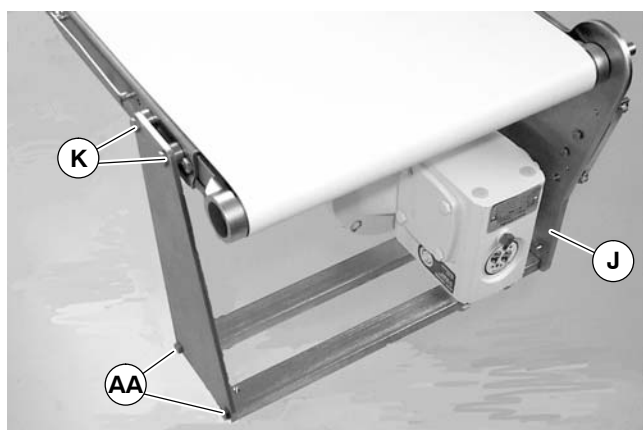
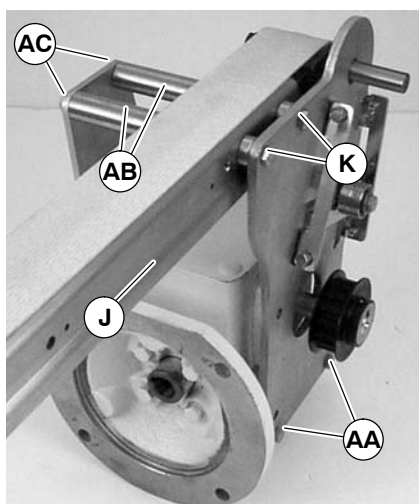

Figure 4
Figure 5
NOTE: 7200 Series 4" (102mm) and wider mounting assembly shown. 2" (51mm) and 3" (76mm) wide mounting assemblies include two spacer tubes (AB of Figure 5) and two long M6 screws (AC).
- 2a. For 4" (102mm) and wider conveyors, loosen two screws (AA of Figure 4). Attach bottom mount assembly (J) to conveyor with four screws (K). Tighten screws (K) and (AA) to 92 in-lb (10.4 Nm).
- 2b. For 2" (51mm) and 3" (76mm) conveyors, loosen two screws (AA of Figure 4). Attach bottom mount assembly (J of Figure 5) to conveyor with two spacer tubes (AB) and screws (AC), and two screws (K). Tighten all screws to 92 in-lb (10.4 Nm).
3. Loosen four screws (AA of Figures 4 and 6). Attach bottom mount assembly (J) to conveyor with two 1.758" (44.7mm) long spacer tubes (AD) and M6 x 65mm hex head cap screws (AE), and two spacer tubes (AF) and screws (AG). Tighten all screws to 92 in-lb (10.4 Nm).